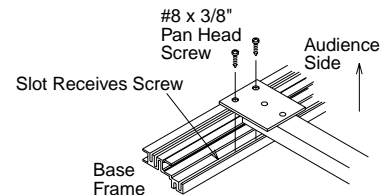

Figure 4
- ⑥ Place bracing assembly inside the inner frame so the plates at each end of braces are completely visible from the front. Make sure these braces are perpendicular to the inner frame sections. Insert #8 x 3/8" screws through the holes in these plates and into the screw channel on the inner frame (see Fig. 4). The inner frame assembly is now complete.